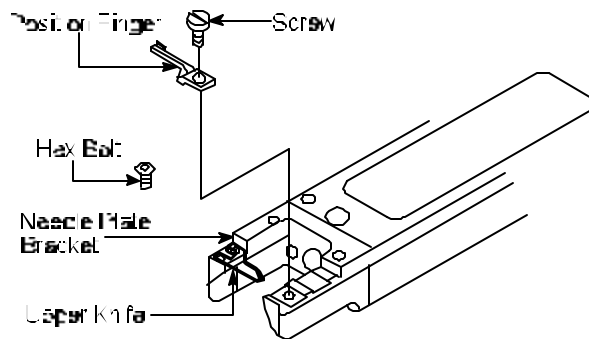

Figure 4
47. **Upper Knife** rests on Position Finger and back rests flush against Needle Plate Bracket. See Figure 4.